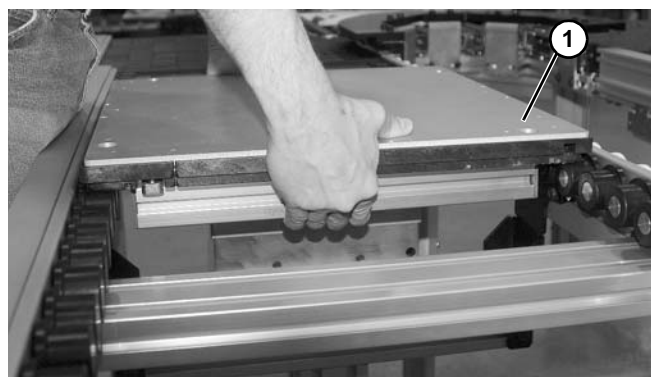

Figure 25
*Adjust stroke to that pallet (**Figure 25, item 1**) raises to desired level.*